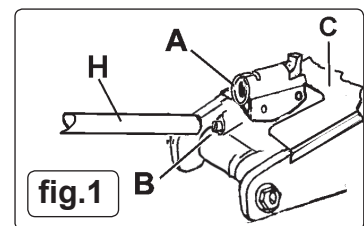

fig.1
- 4.1.1. Before using jack for the first time, purge the hydraulic unit in order to eliminate any air in the system. Place handle (fig.1.H) onto the release valve (B) and open valve by turning the handle anti-clockwise, place handle back into the jacking point (A) and pump for 30 to 40 seconds. When complete, close the release valve by turning the valve (B) clockwise. When lifting a load of maximum capacity or close to it, it is recommended that the effort be reduced by the use of assistance during this operation.
- 5.6. To check the oil level, fully lower the jack. Remove front cover plate (fig.1.C) and filler plug (fig.2.O). The correct level is the bottom of the filler hole. If oil level is low, fill as required. Pump jack 5 or 6 times to expel air. Pump jack up to full height and pour off excess oil before refitting plug. **DO NOT** touch the safety overload valve (fig.2.V).